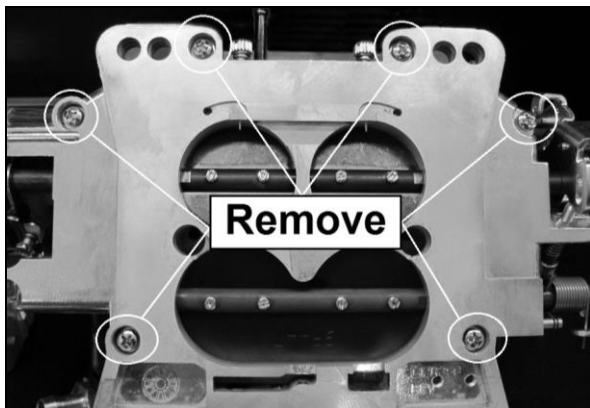

**Figure 22**
4. Disconnect the choke linkage by carefully removing the E-ring retainer from the choke rod (Fig. 22).